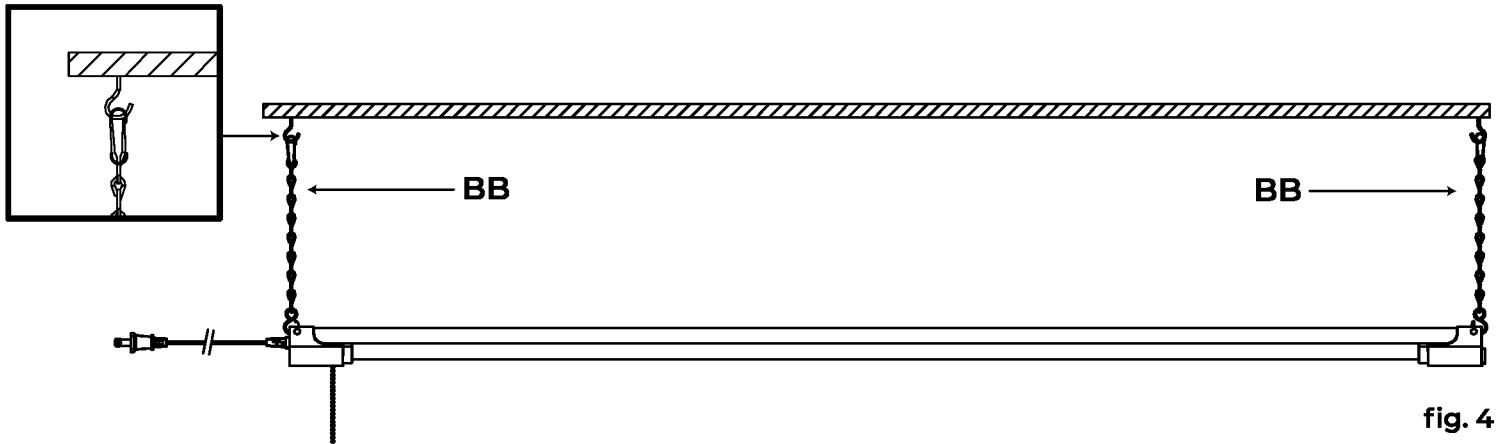

fig. 4
3. Attach the hanging chains (BB) to the ceiling hooks (not provided) (fig. 4). Ensure, the ceiling hooks are properly fastened into the ceiling to prevent the fixture from falling.